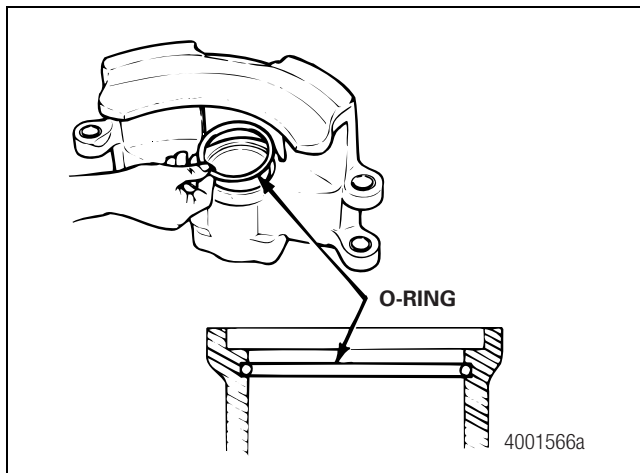

Figure 5.12
1. Install a new O-ring into the caliper bore. Figure 5.12.